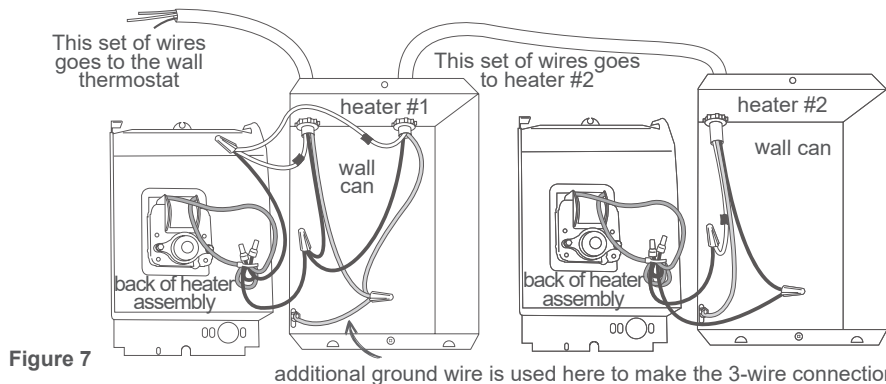

Figure 7
1. Route the electrical supply wire from the circuit breaker to the wall thermostat. At the wall can of heater #1, attach two sets of electrical supply wires with two cable clamp connectors (not included), leaving a minimum of 6 inches wire lead. One set of electrical supply wire goes to the wall thermostat and the other set goes to heater #2 (See Figure 7).
2. There are two supply ground wires in the wall can of heater #1. You'll need to add a small piece of copper wire (not included) to make the 3-wire connection with the ground screw (See Figure 7).
4. For heater #2, make the connections in the wall can as shown in Figure 7 above. Proceed with STEP 4 Wire connections, number 2 on page 5.